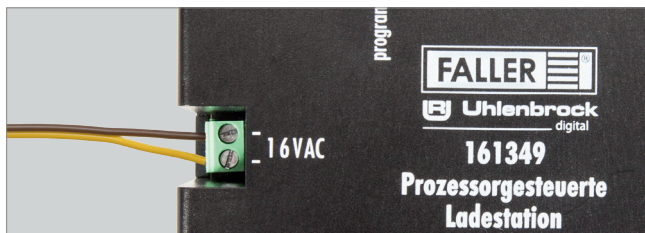

Fig. 2: Connecting the charging unit
- ▶ Connect the charging unit to 16 V alternating voltage, see Fig. 2.